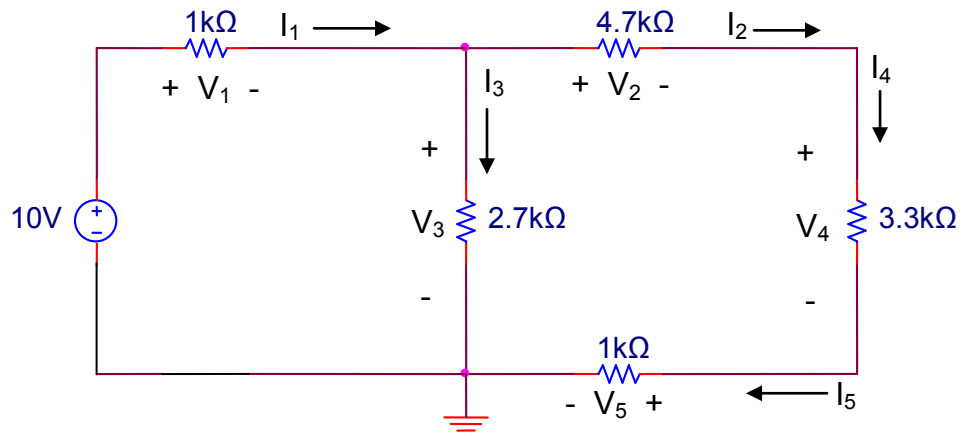

Figure 3.9
7. For the circuit in Figure 3.9, calculate each of the variables listed in Table 3.7.
6. Construct the circuit of Figure 3.9. Using the DMM, measure each of the variables listed in Table 3.7, and calculate the % error for each. Verify that KVL holds for each of the 3 loops in the circuit. Verify that KCL holds at each node. What can be said about $I_2 + I_3$ and I_1 ?